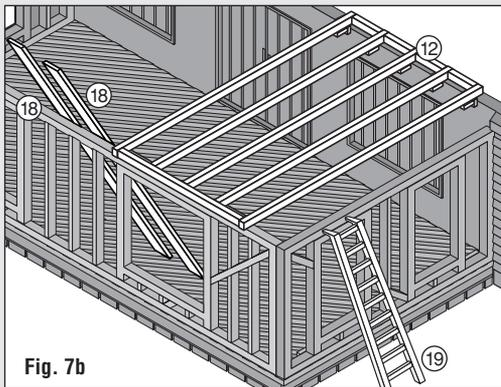

Fig. 7b
- Attach Roofing Frame (12), Lumber x2 (18) and Ladder (19) (Fig. 7b).